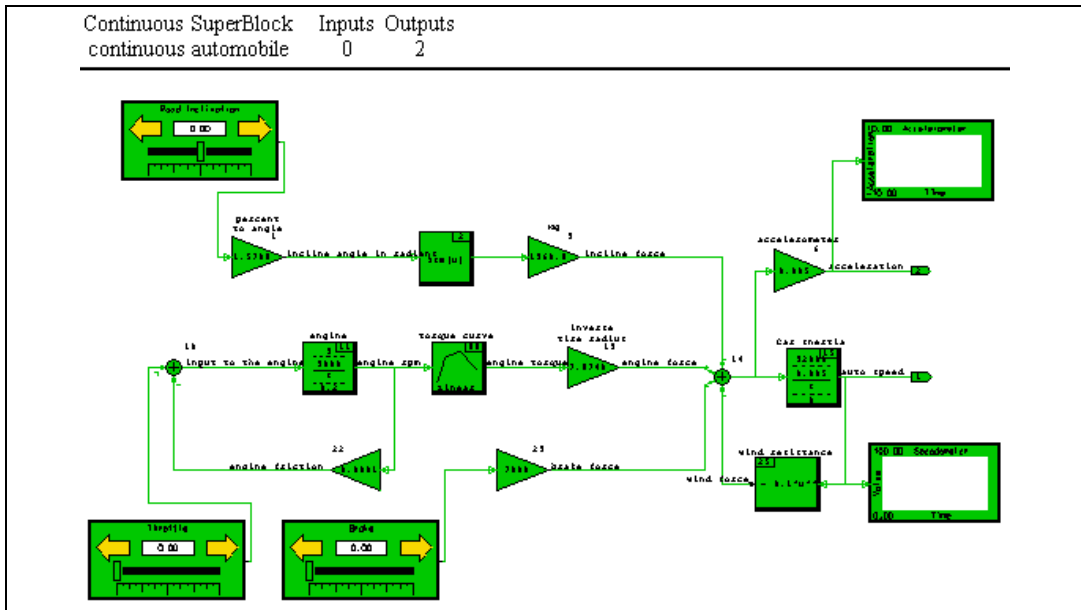

Figure 9-1. Diagram with Input and Output Icons
8. Compare your completed model to Figure 9-1.